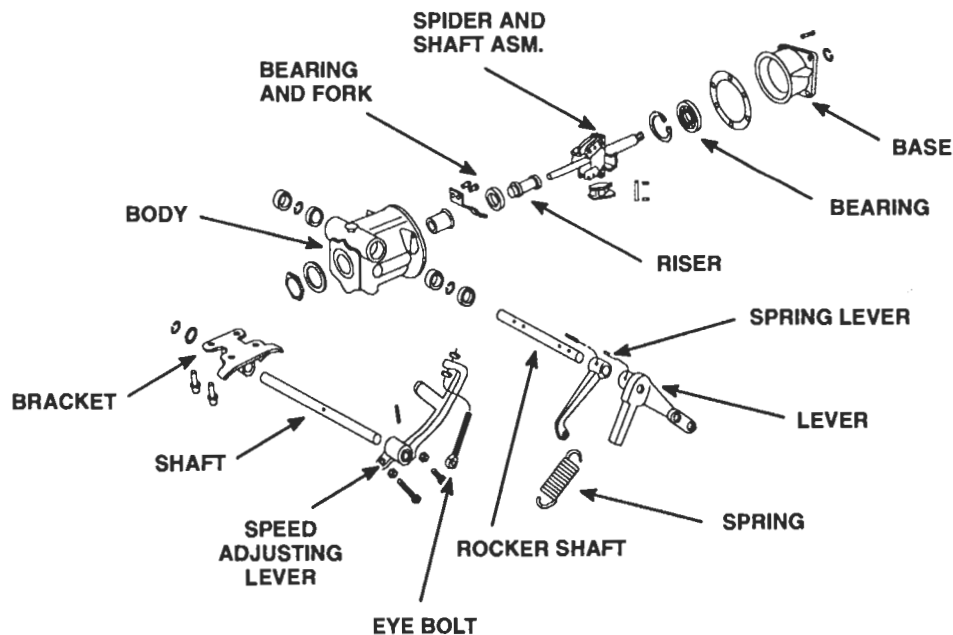

Figure 4. Output Shaft Governor and Components
10. Remove the snap ring, rubber oil seal (Figure 4.) and oil seal retainer from the governor rocker shaft.